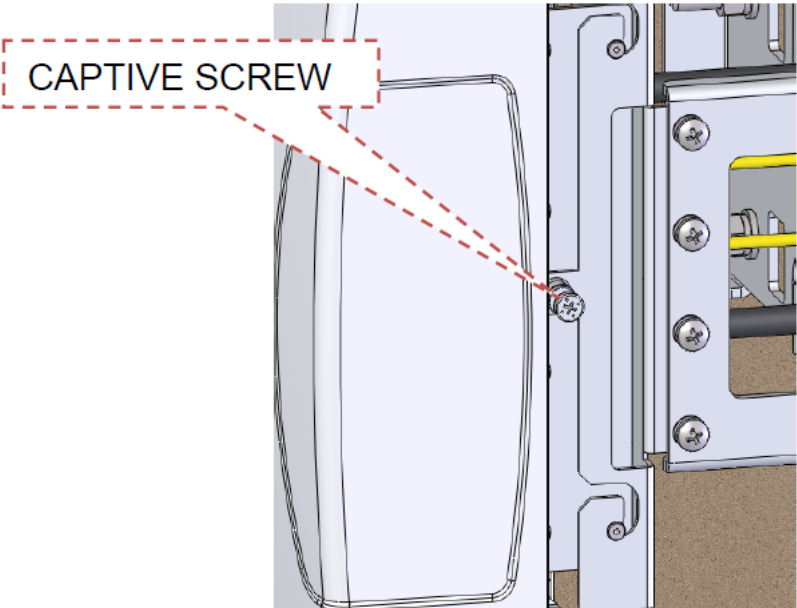

Figure 32
Step 8, Use the Phillips screw driver to tighten the captive screw, as shown in figure 32